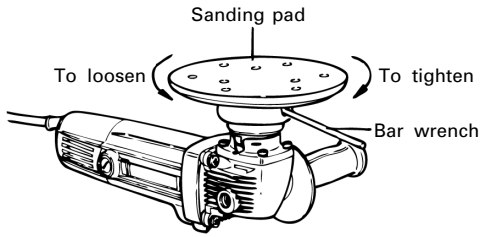

Fig. 5
2. Holding the bar wrench, the sanding pad is tightened by rotating in to the right (clockwise), and loosened by rotating it to the left (counterclockwise), as shown in Fig. 5.